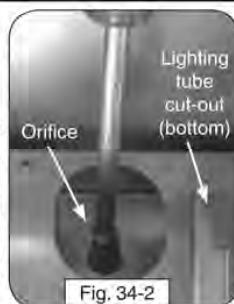

Fig. 34-2
5. Use a nut driver to remove the exposed orifice (see Fig. 34-2) and replace it with the correct orifice for the new gas. (See Table 1 at the beginning of this